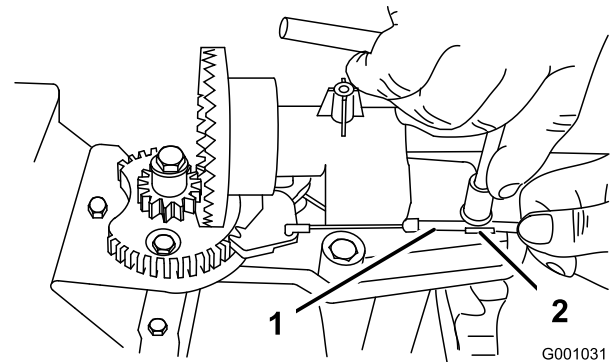
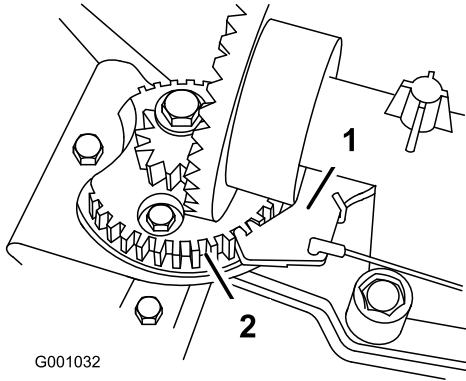

Figure 53
Figure 54
2. Loosen the bolt on the cable clamp (Figure 53).
3. Grasp the cable conduit and move it toward the front of the machine until the discharge-chute latch fully engages the gear teeth (Figure 53 and Figure 54).
Note: The latch is spring loaded and naturally moves into the teeth of the gear (Figure 54).